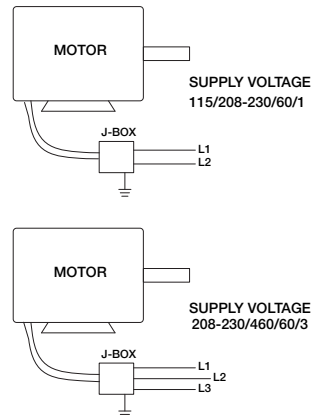

Figure 2 – Typical Wiring Diagram
NOTE: Refer to Figure 2 for connection wiring diagram.
10. Wire control switches at ground level. Refer back to Figure 2, page 3.